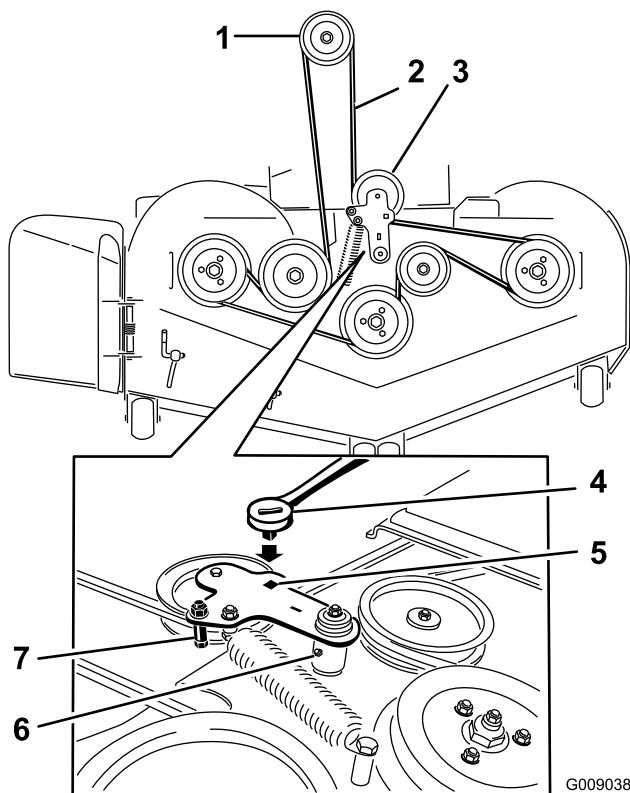

Figure 80
5. Use a ratchet in the square hole in the idler arm to remove tension on the idler spring (Figure 80).
7. Remove the belt guide on the spring-loaded idler arm (Figure 80).
9. Install the new belt around the mower pulleys and the clutch pulley under the engine (Figure 80).
10. Install the belt guide on the idler arm (Figure 80).
11. Using the ratchet in the square hole, install the idler spring (Figure 80).